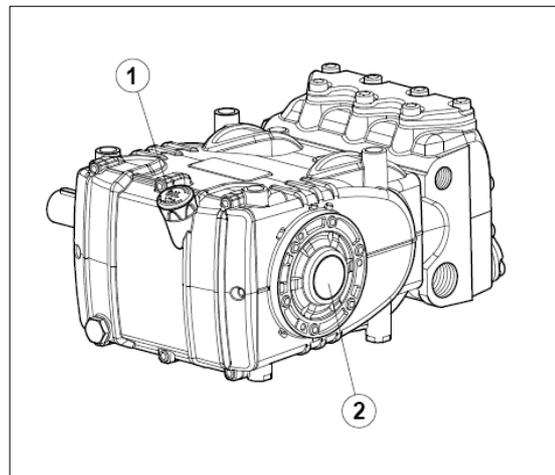

fig. 14
5. The oil level in the pump must be verified using the apposite dipsticks (position 1 fig. 14), and exceptionally by means of the oil sight glass (position 2 fig. 14).